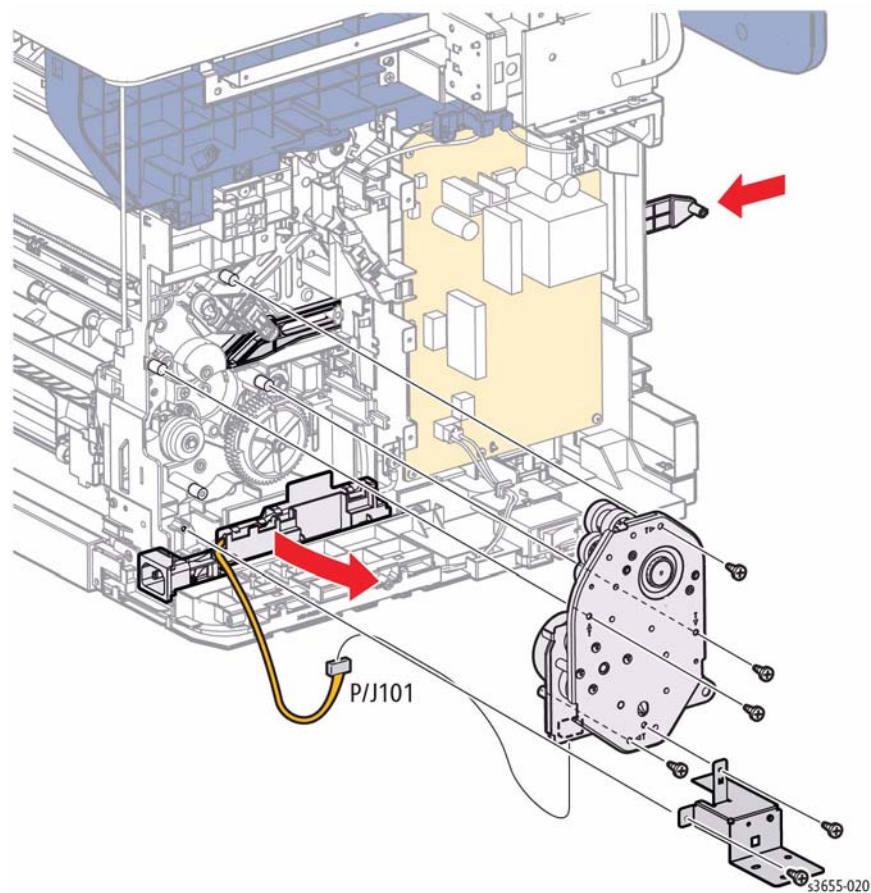

Figure 1 Remove the Main Drive Assembly
10. Refer to Figure 1 to locate and remove 2 screws (silver, tapping, 8mm and metal 8 mm) that secure the main drive bracket.
11. Refer to Figure 1 to locate and remove 4 screws (silver, tapping, 8mm) and disconnect the Main Drive Assembly to remove.